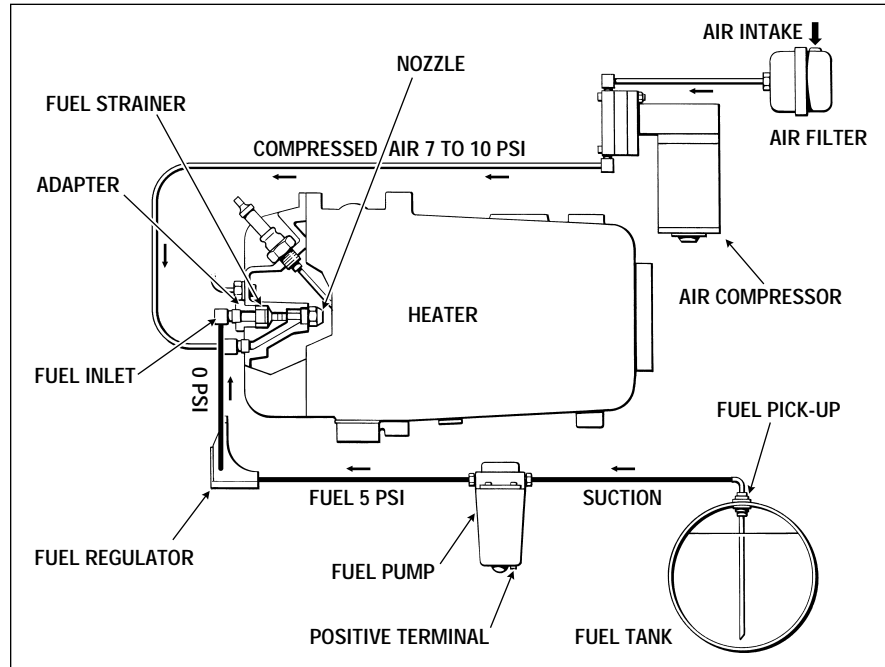

Figure 5-18 Fuel System Schematic
- Check for power to the fuel pump positive terminal. See figure 5-18.